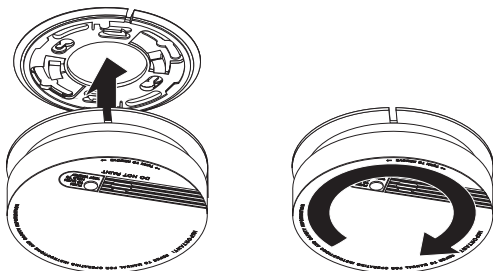

FIGURE 6C
5. Attach smoke alarm to mounting bracket with a clockwise twist until it snaps into locked position. See Figure 6C. **NOTE:** To engage the tamper resist feature, please see **USING THE TAMPER RESIST LOCKING MECHANISM.**